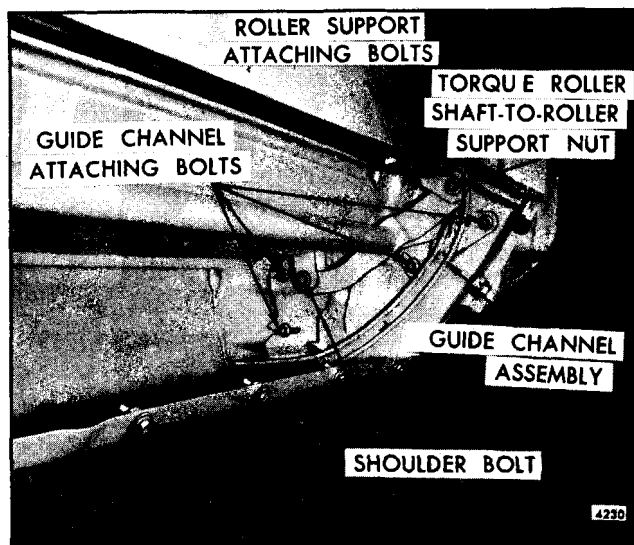

Fig. 9-19-Tail Gate Guide Channel Assembly - Right
2. Working through access hole in lower housing, remove synchronizing tube-to-guide channel link shoulder bolt (Fig. 9-19 or 9-20).
3. Remove guide channel-to-body attaching bolts (Fig. 9-19 or 9-20).
attaching bolts and roller shaft-to-support attaching nut (Fig. 9-19) (left side) - remove roller support-to-tail gate attaching bolts.
4. Scribe location of guide channels on body and remove rearward attaching bolts and loosen forward attaching bolts (Fig. 9-19 and 9-20).